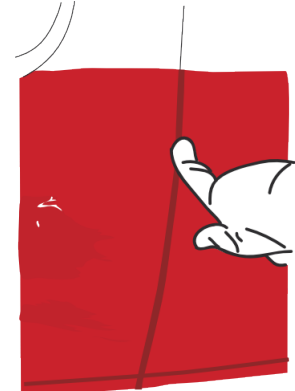

Figure 24
- Trace the contours of the area with your gloved finger. (FIG. 24)